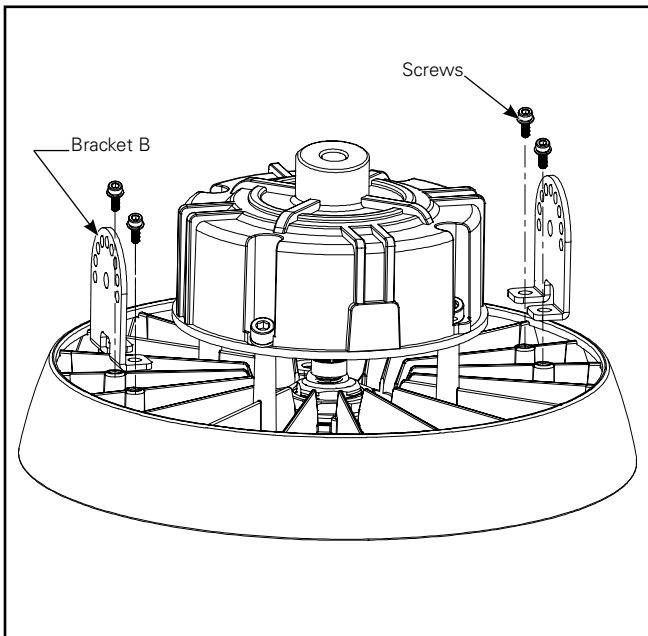

Figure 10.
1. Lock the 2pcs Bracket B on the lamp with screws. (Figure 10.)